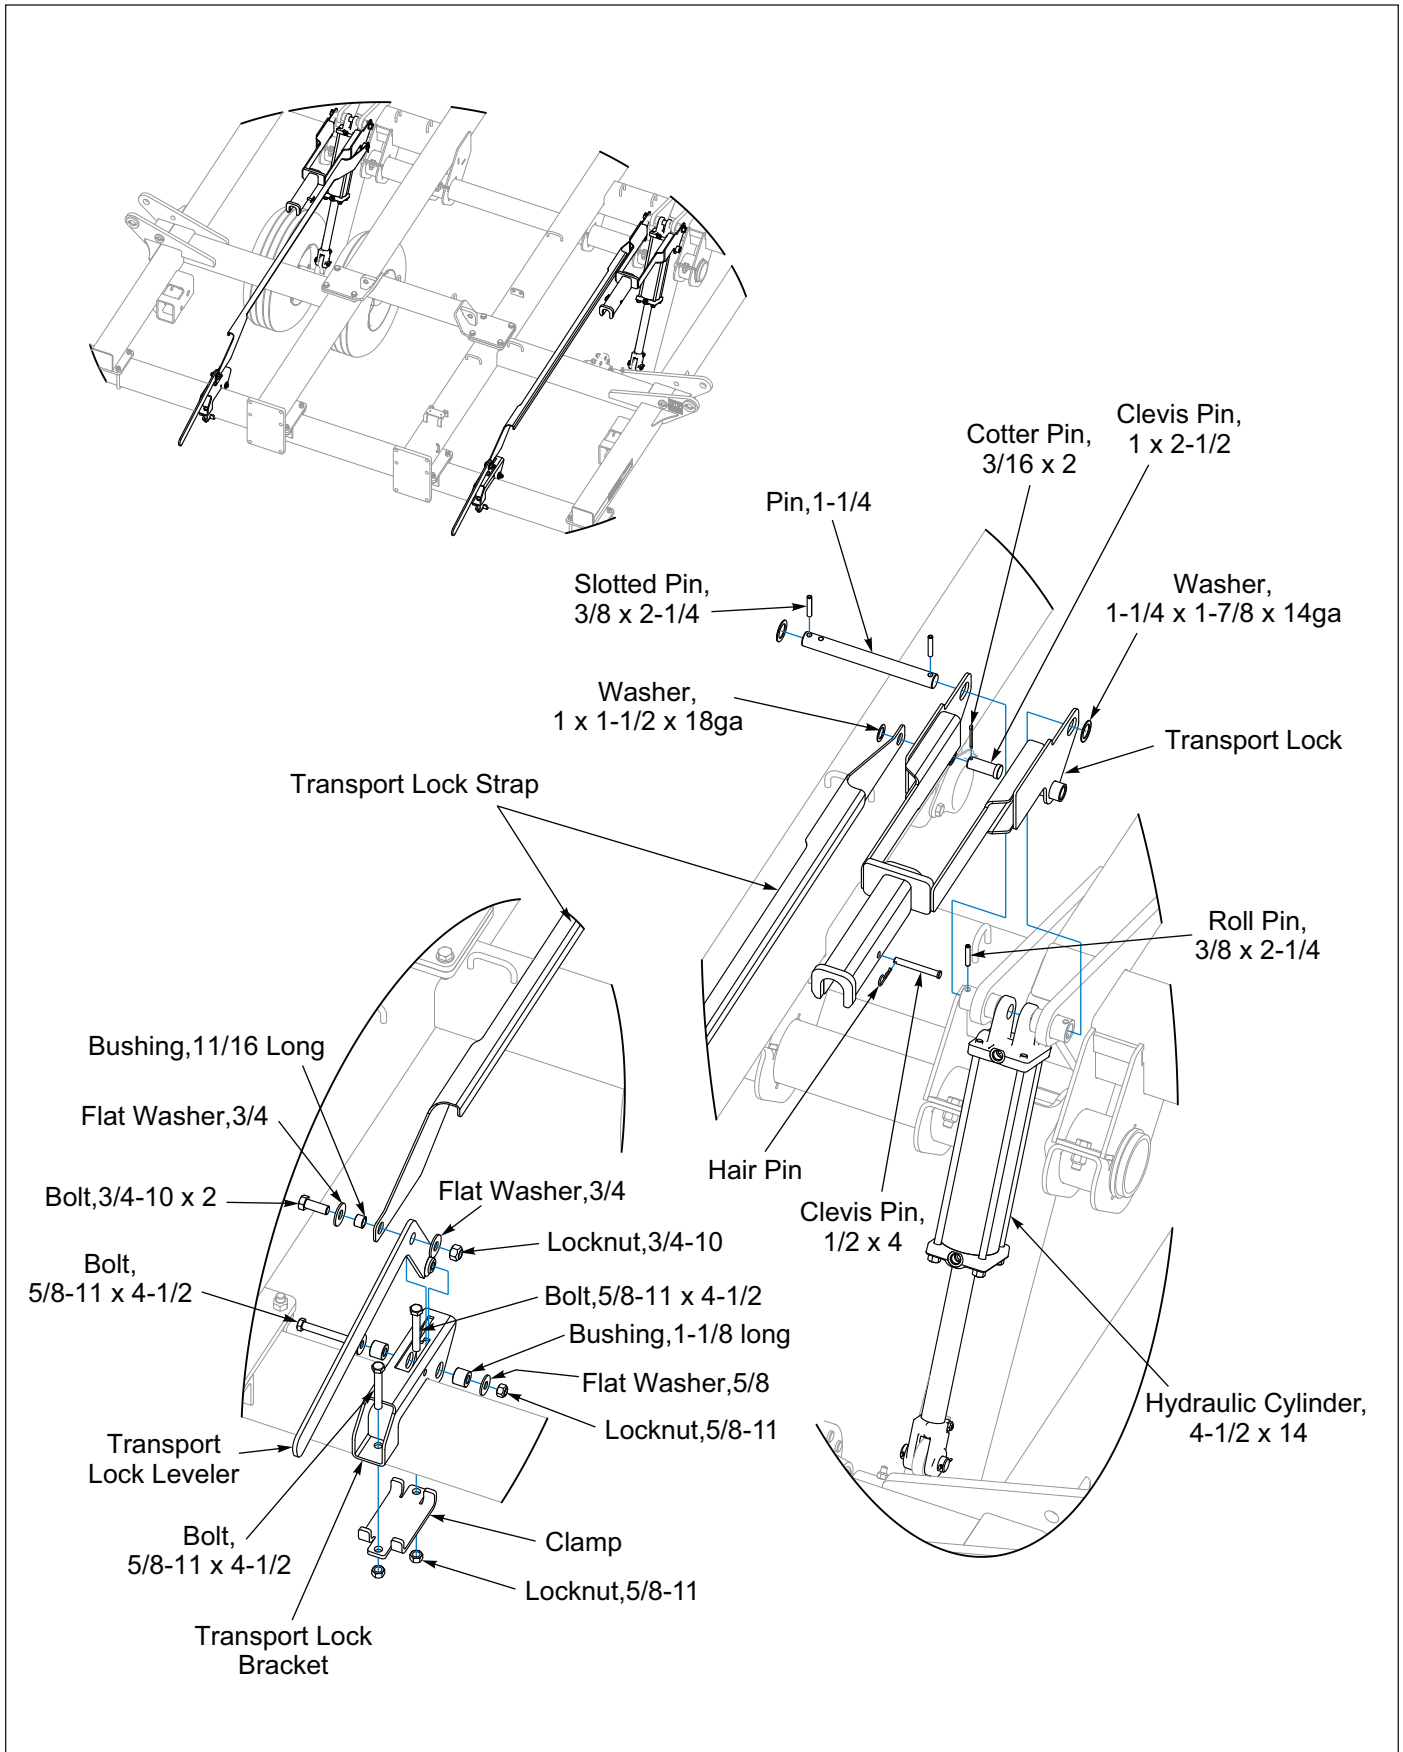

Figure 2-8: Rockshaft Cylinder and Transport Lock Installation
1. Attach 4-1/2 x 14 hydraulic cylinder rod end to Rockshaft Arm with provided pin. **See Figure 2-8.**